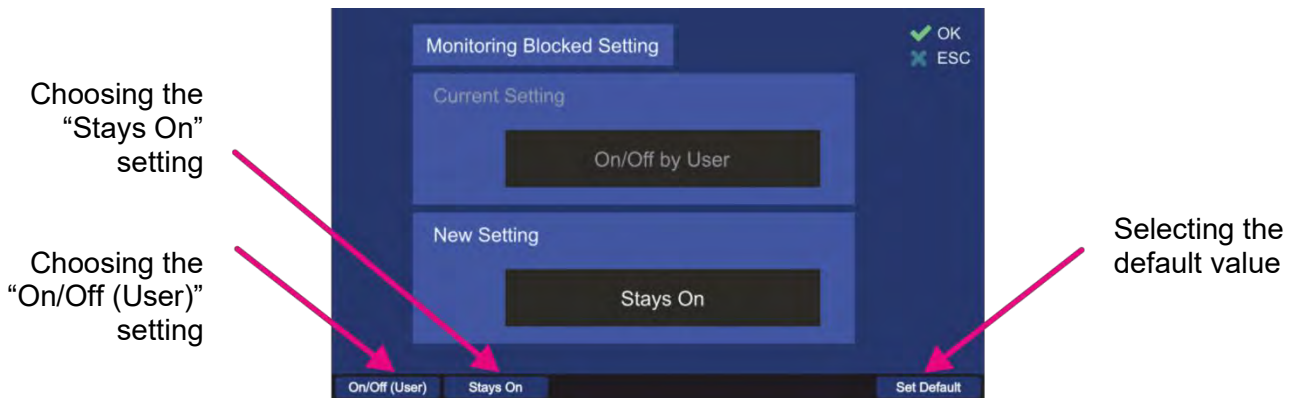

Figure 104. Monitoring handling settings
There are two possible settings in this menu (s. Figure 104).
- o Choose the new setting using one of the hotkeys (s. Figure 104), which will then appear in the “New Setting” field.